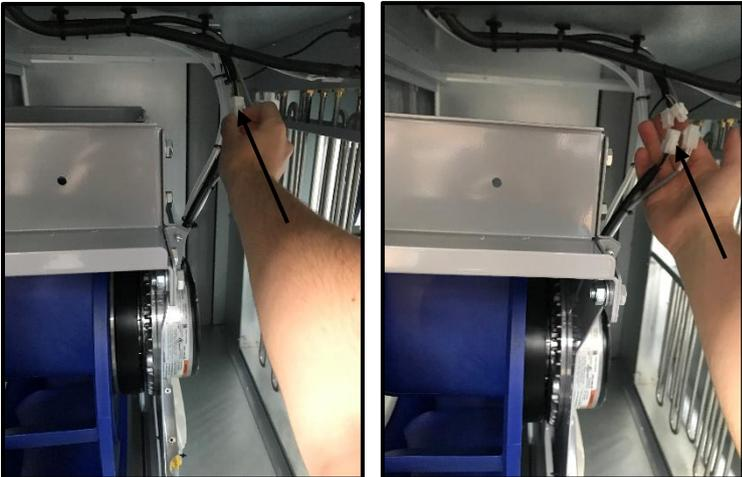

Fig. 36
2. Unplug the power connector on the fan (Fig. 36)